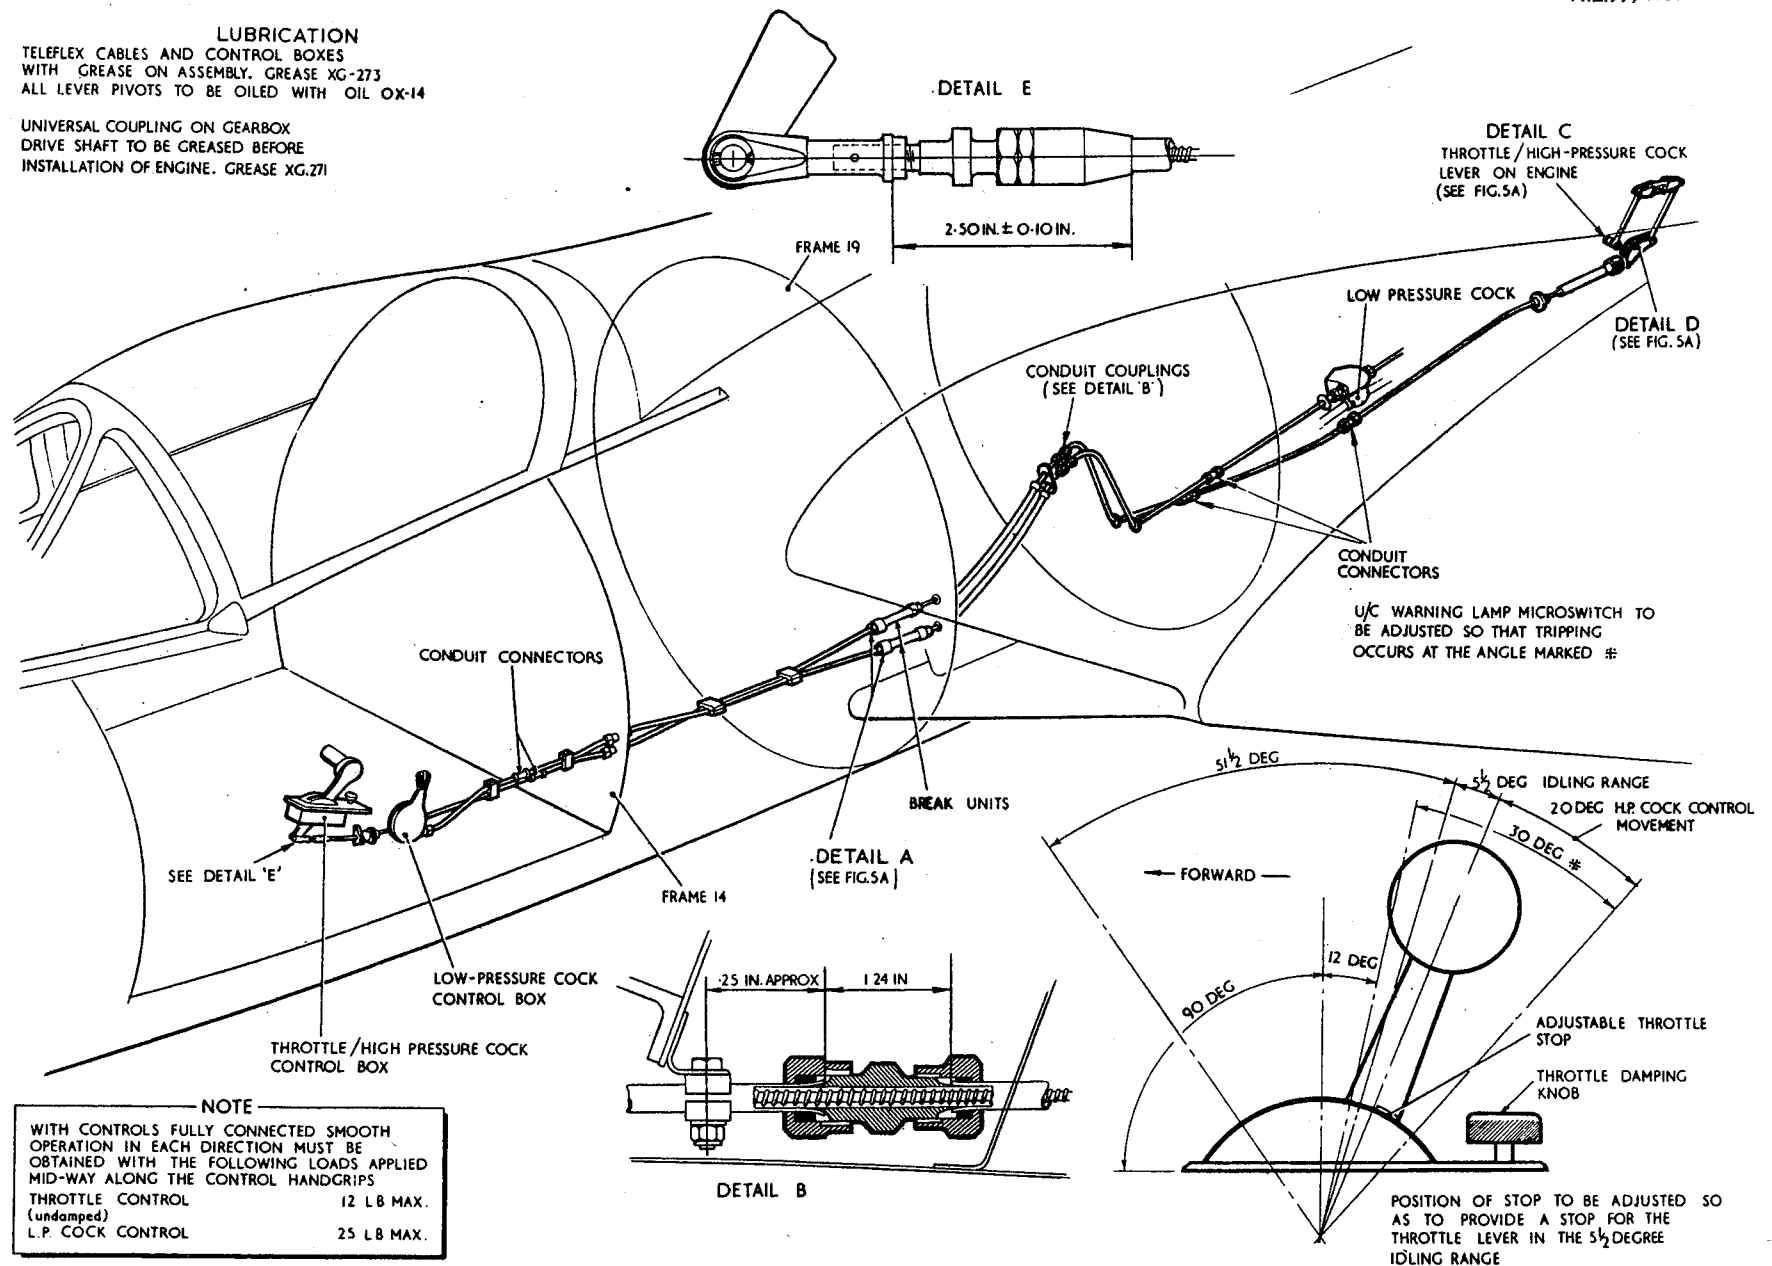

Fig 5 Engine Controls (1)
Engine controls (fig. 5 and 5A)
12. The combined throttle and high-pressure cock and the low-pressure cock should be checked to ensure that they come up against their stops before the system is strained. In no circumstances should the throttle and high-pressure cock stops on the engine be interfered with in any way, as these have been set in the correct position by the engine manufacturers. Control settings are given in fig. 5 and 5A.
15. Oil specifications and capacities for the engine, accessories gearbox and turret drive arm are listed in the Leading Particulars at the front of this volume. The units should be checked for oil level before flight and topped up as necessary (Sect. 2, Chap. 2). Lubrication of the engine controls is detailed in fig. 5. The gearbox universal drive shaft couplings should be lubricated as described in para. 25.